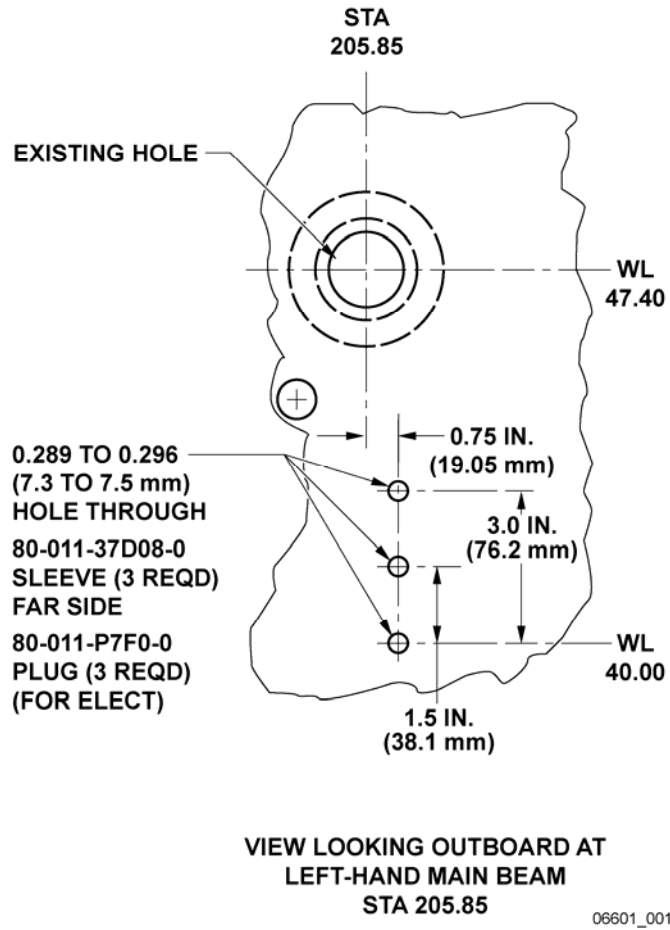

Figure 1
- a) Locate qty 3 holes in accordance with figure 1.
- b) Drill qty 3 holes 0.296 to 0.289 inch through panel assembly as shown on figure 1.